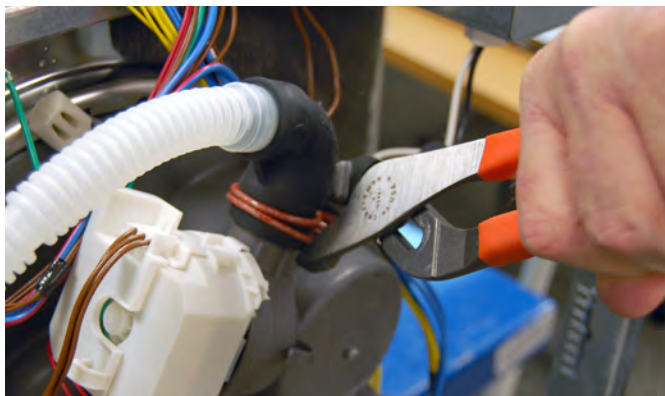

Figure 1
2. Release hose clamp and pull off the hose, see figures 1 and 2.